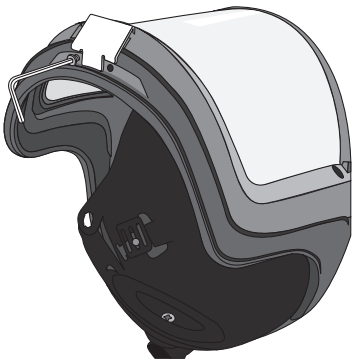

Fig. 6
8. Use the two screws provided and a 5/64 (2 mm) Allen wrench to secure the lock in place, as shown in Figs. 6 and 7. Hand tighten the screws until they are secure but not overtight.